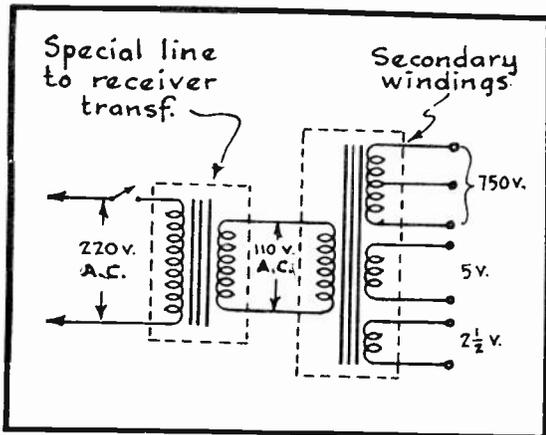

Fig. 2
2. - ANOTHER SOLUTION IS TO LEAVE THE ORIGINAL POWER TRANSFORMER IN THE RECEIVER AND TO CONNECT A SPECIAL LINE TRANSFORMER BETWEEN THE A.C. LINE AND THE PRIMARY WINDING OF THE RECEIVER TRANSFORMER AS SHOWN IN Fig. 2. THE PRIMARY WINDING